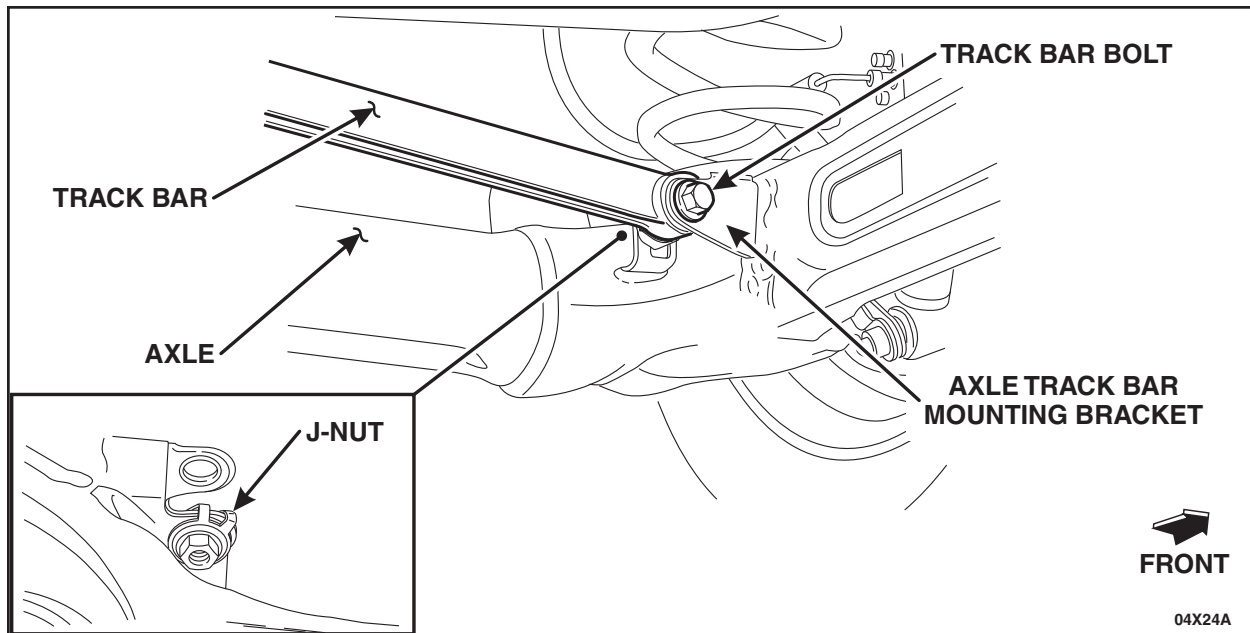

FIGURE 6
4. Disconnect the track bar from the rear axle. See Figure 6.
18. Install the J-nut on the rear axle track bar mounting bracket. Position the track bar on the rear axle track bar mounting bracket and install the track bar bolt. See Figure 6.